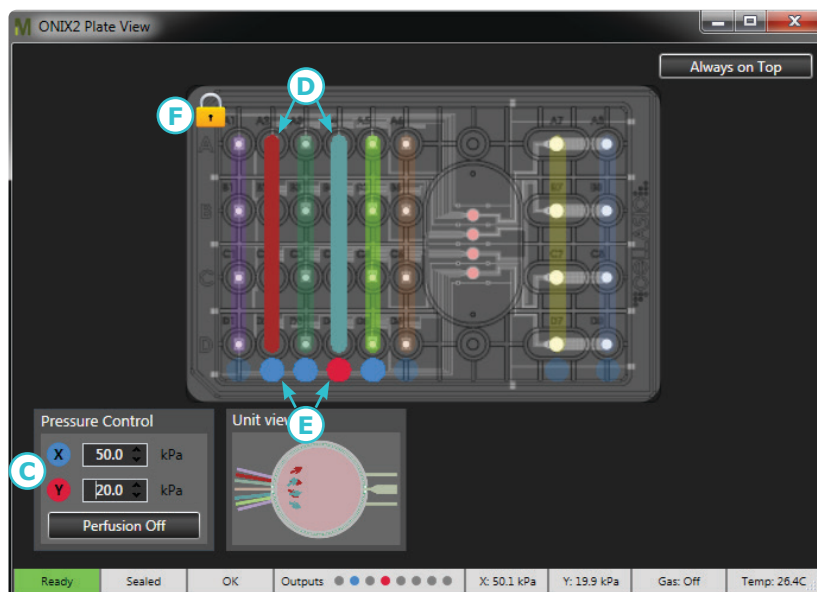

Figure 37. Plate Mini-view with two well groups active and secondary pressure enabled
2. Set pressures X and Y (C) in Figure 37).
3. Click on **Well groups** (D) and **Pressure Select** (E) buttons to activate flows. The **Unlock all well group access** lock icon (F) allows manual activation of well groups other than the solution inlets.